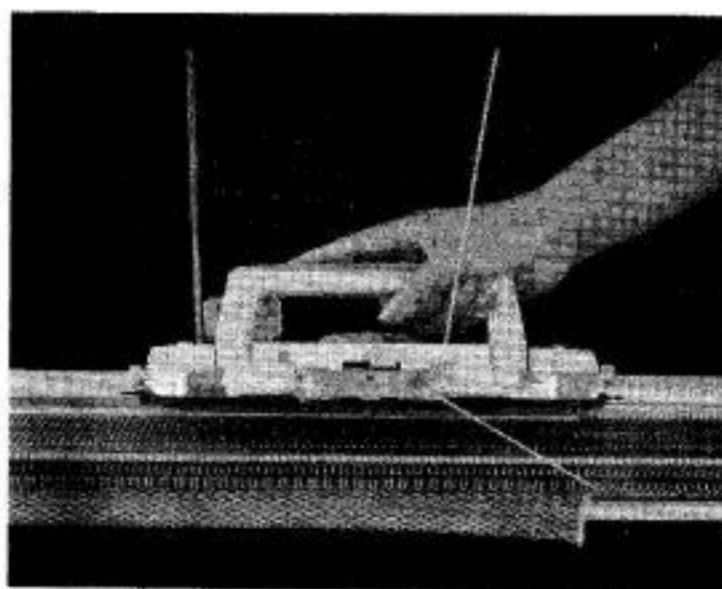

Fig. 50
**Note:** An alternative method for moving the carriage from one end of the machine to the other, is, by raising the Carriage slightly at the front to clear the needles and slide it along the back Runner Rail to left or right, see Fig. 50. This method is also useful should any obstruction occur during knitting causing the Carriage to jam in the middle of a row. Before the front of the Carriage is lowered it must be moved to the **extreme end of the machine** otherwise the Sinker Cam will be unable to engage the Butts of the Sinker Needles.